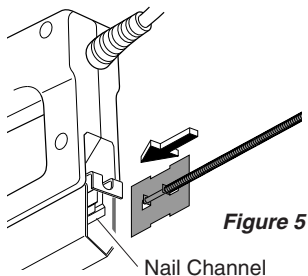

Figure 5
5. Replace nail pusher into nail chamber. Do this by inserting flat metal end of nail pusher into nail channel (see Figure 5). Fully push nail pusher into nail chamber. Push hook end of nail pusher up and latch it to nail chamber.